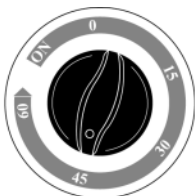

FIGURE 7
2. Select from the four available times for the desired duration of pressing. 15, 30, 45, and 60 minute choices are available (FIGURE 7).